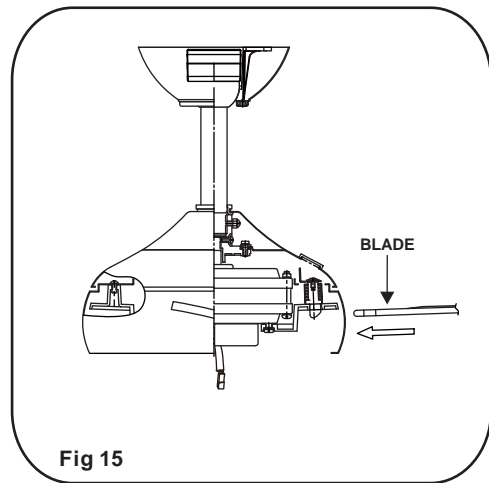

Fig 15
Step 1. Insert the blades into the motor housing blade slots, push blade until it stops. You should be able to hear the inside safety pin drops into the blade hole to secure the blade in place. (Fig. 15)